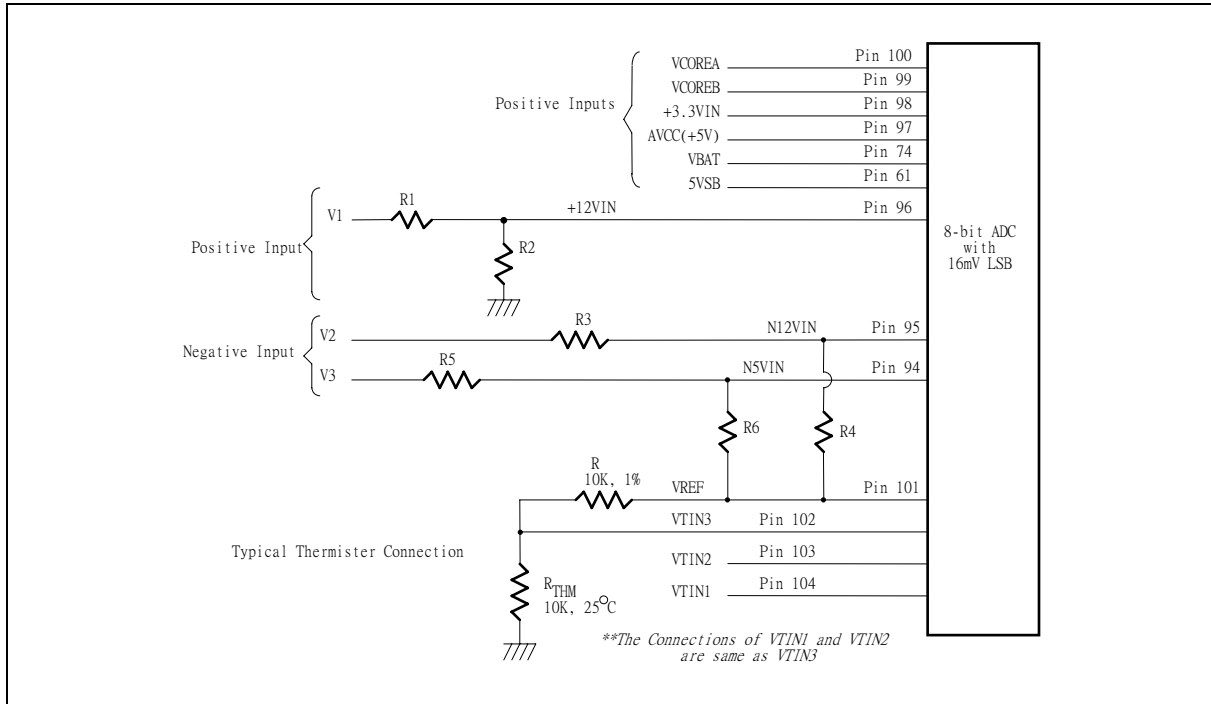

Figure. 8.2
The maximum input voltage of the analog pin is 4.096V because the 8-bit ADC has a 16mv LSB. Really, the application of the PC monitoring would most often be connected to power suppliers. The CPU V-core voltage, +3.3V, battery and 5VSB voltage can directly connected to these analog inputs. The +12V,-12V and -5V voltage inputs should be reduced a factor with external resistors so as to obtain the input range. As Figure 8.2 shows.
The negative voltage should be connected two series resistors and a positive voltage VREF (is equal to 3.6V) . In the Figure 8.2, the voltage V2 and V3 are two negative voltage which they are -12V and -5V respectively. The voltage V2 is connected to two serial resistors then is connected to another terminal VREF which is positive voltage. So as that the voltage node N12VIN can be obtain a posedge voltage if the scales of the two serial resirtors are carefully selected. It is recommanded from Winbond that the scale of two serial resistors are R3=232K ohm and R4=56K ohm. The input voltage of node N12VIN can be calculated by following equation.
The W83627HF can connect three thermistors to measure three different environment temperature. The specification of thermistor should be considered to (1) β value is 3435K, (2) resistor value is 10K ohms at 25°C. In the Figure 8.2, the thermistor is connected by a serial resistor with 10K Ohms, then connect to VREF (Pin 101) .